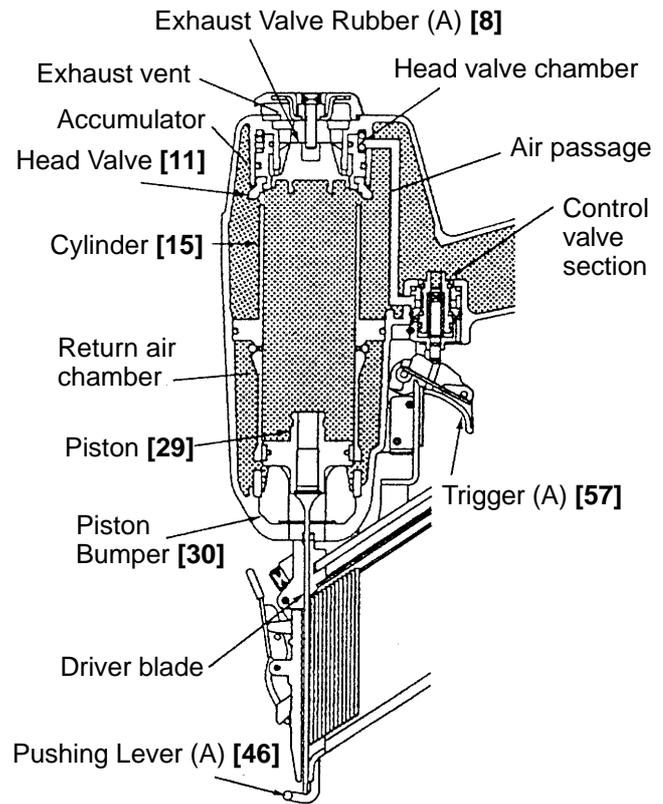

Fig. 7
(3) During return: (Fig. 7, Fig. 8)